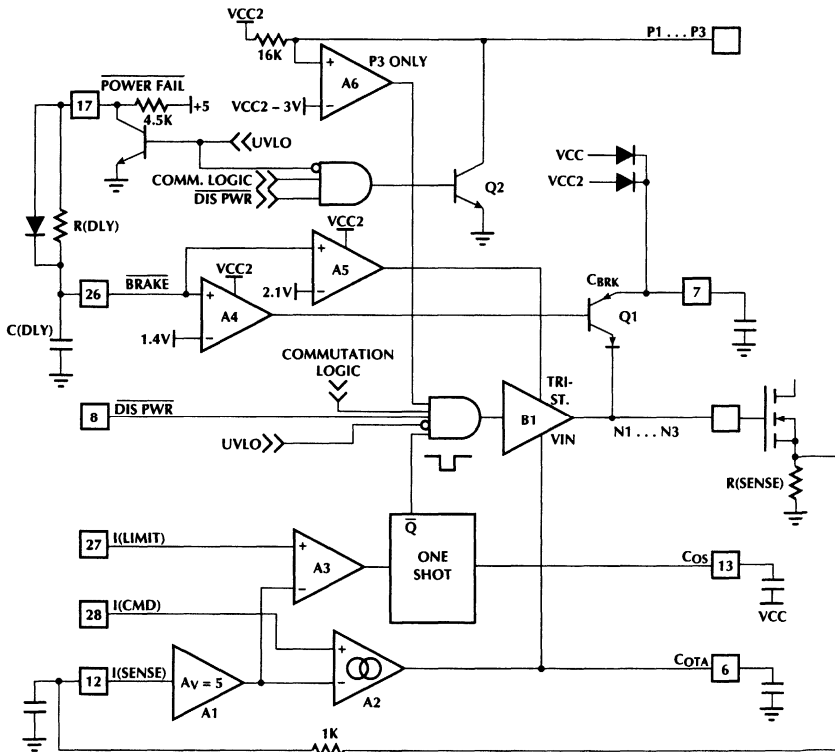
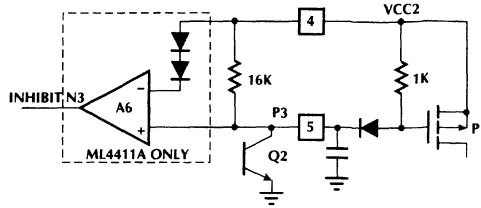

Figure 9. Current Control, Output Drive and Braking Circuits.
Figure 13. Alternate cross-conduction prevention for ML4411A
To facilitate speed control, the ML4411 includes two current control loops — linear and PWM (figure 9). The linear control loop senses the motor current on the I(SENSE) terminal through  $R_{SENSE}$ . An internal current sense amplifier's (A2) output modulates the gates of the 3 N-channel MOSFET's when OTA OUT is tied to OTA IN, or can modulate a single MOSFET gate tied to OTA OUT. When operated in this mode, OTA IN is tied to 12V, and N1-N3 are saturated switches. This method produces the lowest current ripple at the expense of an extra MOSFET.
As shown in figure 9, the braking circuit pulls the N-Channel MOSFET gates high when BRAKE falls below a 1.4V threshold. After a power failure, C(DLY) is discharged slowly through R(DLY) providing a delay for retract to occur before the braking circuit is activated. The N-Channel buffer (B1) tri-states when the BRAKE pin reaches 2.1V to ensure that no charge from C(BRK) is lost through the pull-down transistor in B1. To brake the motor with external signals, first disable power by pulling pin 8 low, then pull pin 26 below 1.4V using an open drain (or diode isolated) output.
Since the output section in a full bridge application consists of three half-H switches, cross-conduction can occur. Cross-conduction is the condition where an N-FET and P-FET in the same phase of the bridge conduct simultaneously. This could happen under two conditions (see figure 13):
- When transitioning from mode 0 to mode A (see table 1) P3 goes from on to off at the same time N3 goes from off to on. If the P3 turns off slowly and N3 turns on quickly, cross-conduction may occur. This condition has been prevented inside the IC on the ML4411A through the addition of comparator A6 on the P3 output (Figure 9). This comparator may cause an oscillation when the N3 switches on due to the capacitive coupling effect described below pulling the P3 pin below VCC2-1.4V. To avoid this, use the circuit in Figure 13.